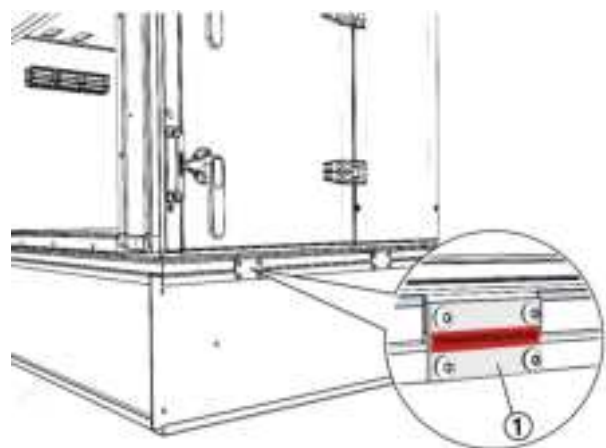

Fig. 10: Transport protection device on units with Vibration Baseframe
1. ▶ Unscrew screws on the transport protection devices (Fig. 10 /1) using tool (TX30) and remove the metal sheets.